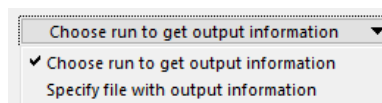

Figure 7. Options for getting output information.
- ④ Drop-down control to choose between two options for obtaining information about available output variables (Figure 7).